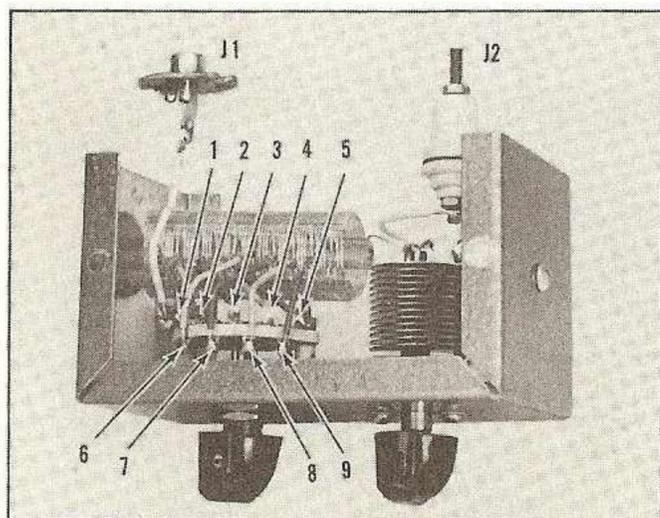

Fig. 22 Switch taps of coil L1 are seen in this view. The input and output connectors (J1 and J2) attach to the other section of the aluminum box.
- ( ) Prepare coil (L1). It is necessary to place a tap at every seventh turn on the coil. To make the taps without shorting adjacent turns, push down the wire turn on each side of the turn to be tapped, as shown in Figure 22. Do this to the turns on *each side* of every seventh turn, starting from one end of the coil.
- ( ) Looking at the bottom of the switch, connect the lead from the left end of the coil (not the tap) to the most counterclockwise terminal on the rear of the switch (see Figure 22).